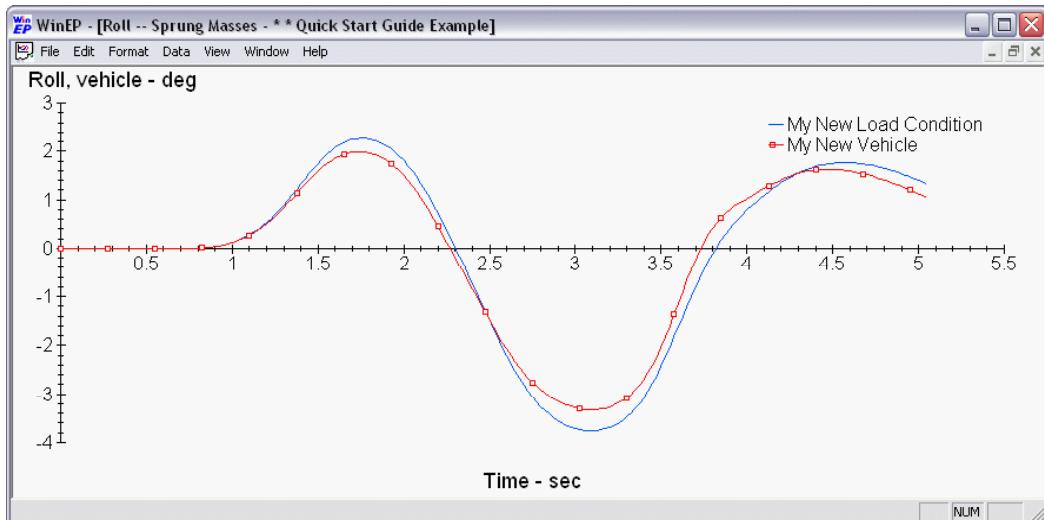

Figure 52. Comparison of roll angle for original and modified vehicle.
19. Click the **Plot** button to compare the behavior of the new vehicle with the original. As expected, the modified vehicle has less roll angle (Figure 52). Close the plotter when you are through viewing these results.